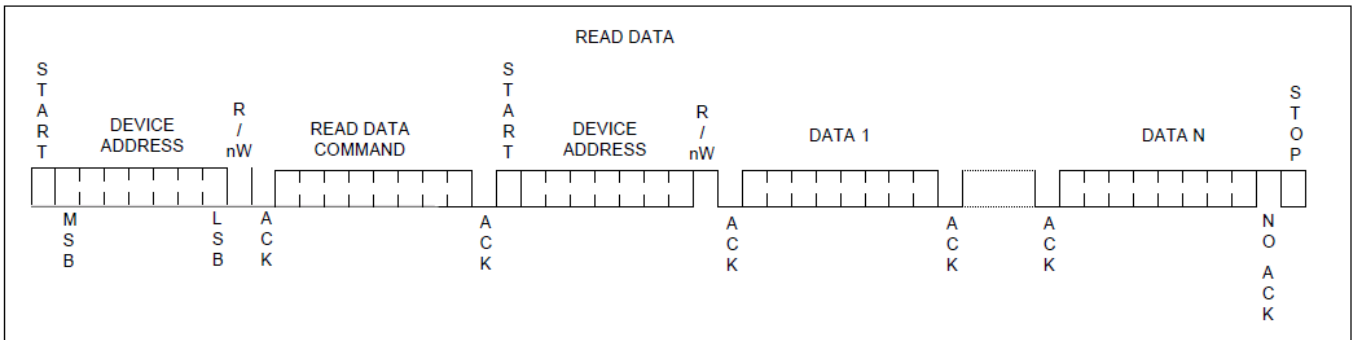

Figure 2-12 : Read data transfer
- A "READ_" command must follow the I²C read data protocol (see Figure 2-12)